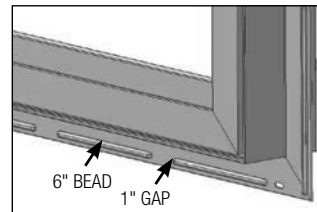

FIG. 13
- c. Use a discontinuous bead at the sill to allow for any drainage. Alternate using a 6" long bead with 1" gaps. (Fig. 13)